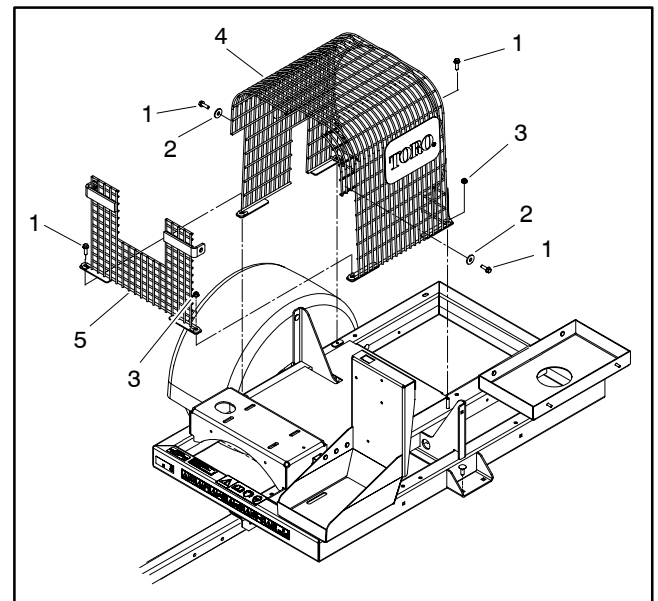

Figure 7
4. Remove top grill to allow access to blower assembly (Fig. 7).
7. Remove plug (item 9) from inner housing.
6. Install four (4) cap screws to secure bearing holder to inner housing. Tighten screws in three (3) equal steps and in a crossing pattern. Final torque on screws should be from **180 to 210 in-lb (21 to 23 N-m)**.
7. Install plug (item 9) into inner housing.
10. Install top grill to machine (Fig. 7).